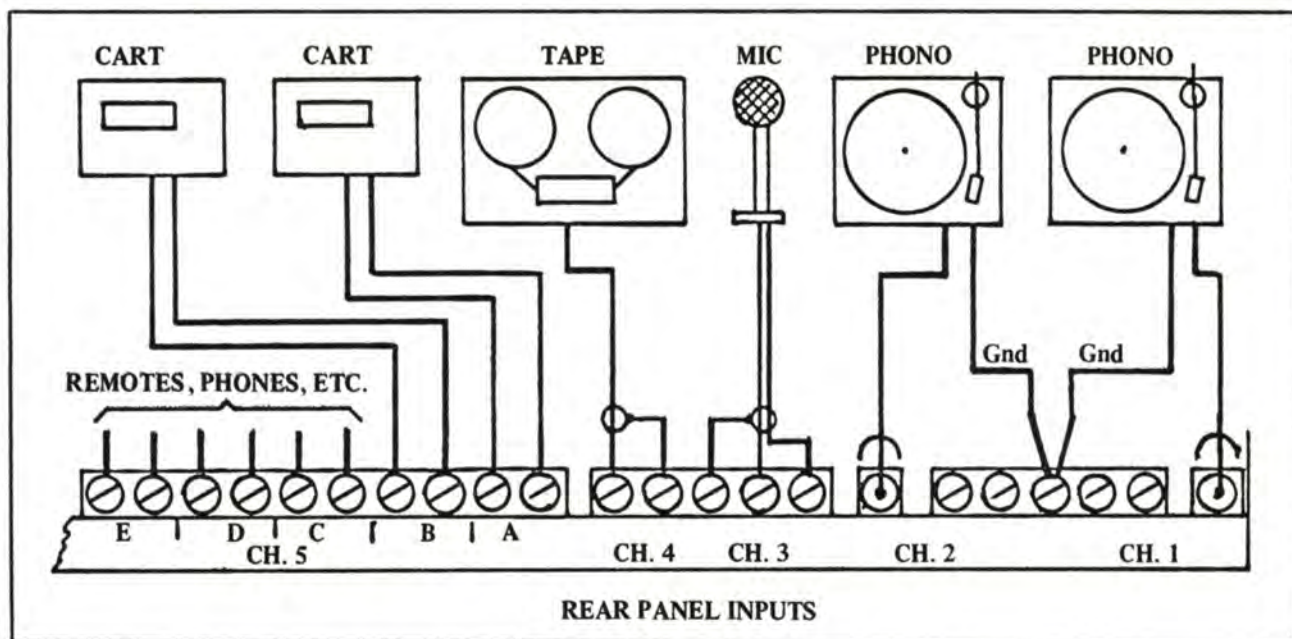

Figure 2-1. Typical Input Configuration, Using Factory Settings
- 2-10. Figure 2-1 illustrates a typical input configuration, using the factory settings.